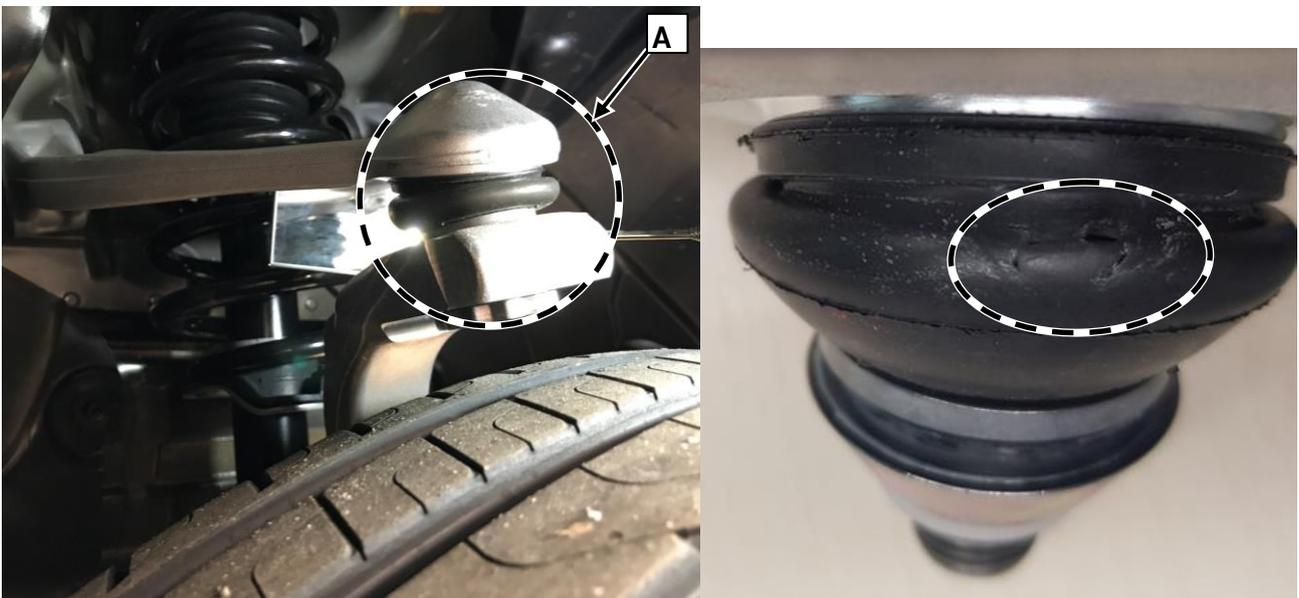

Figure 1
1. Lift vehicle and check air bellows for ball joint of upper front axle transverse control arm on left and right (A, Figure 1) for damage **all around** using a mirror.